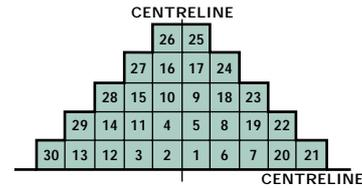

Figure 5 Pyramid layout
Lay the first pyramid of tiles from the centrelines, using the sequence shown in Figure 5. Ensure a close bond is maintained at all times.
**Note: Construction of a pyramid should always start at the centre of the baseline, working in the same sequence as shown in Figure 5.**